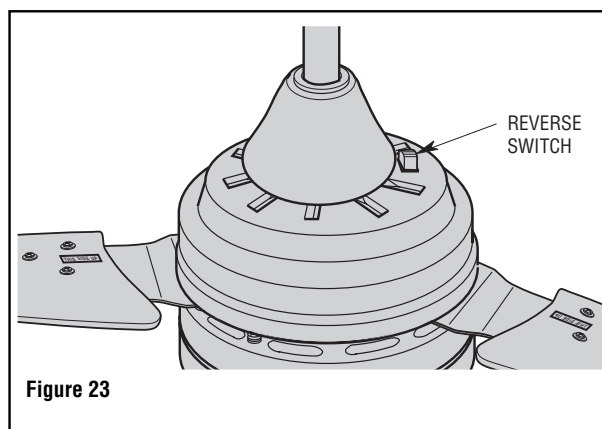

Figure 23
18. All fans are shipped from the factory with the reversing switch positioned to the “left” circulate air downward. If airflow is desired in opposite direction, turn your fan OFF and wait for the blades to stop turning, then slide the reversing switch to the “right” position, and turn fan on again (Figure 23).